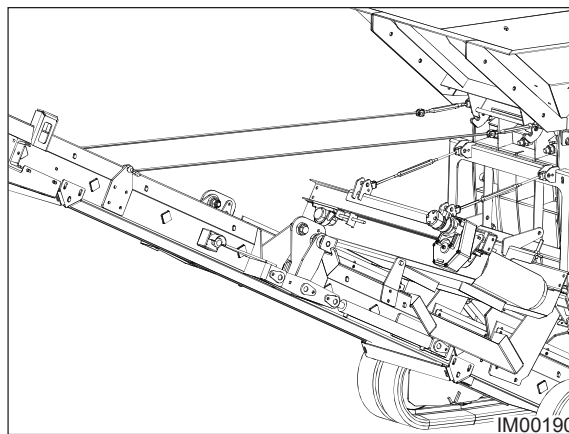

Fig: 10.1 - Steel Ropes & Turnbuckles
2. Disconnect the steel ropes and turnbuckles between the conveyor and the crusher hopper (Fig: 10.1).